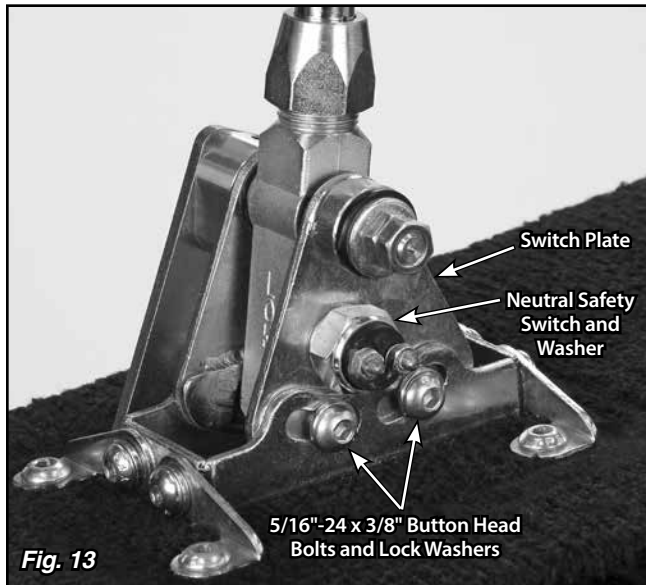
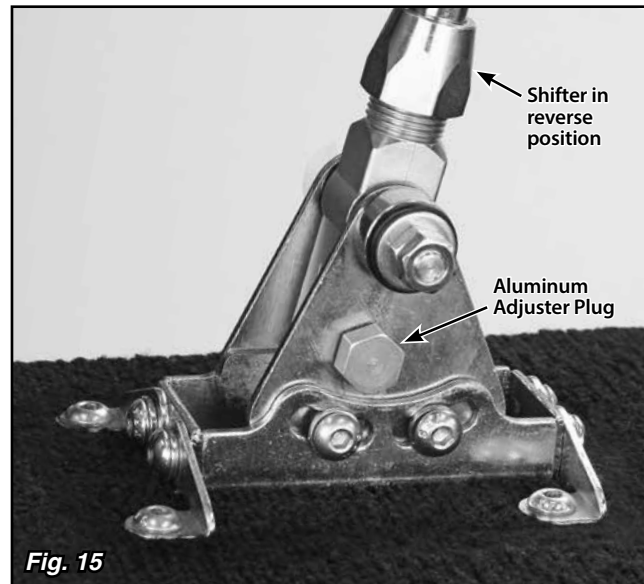

Fig. 13
Fig. 15
Step 16: Remove the neutral safety switch and washer (**Fig. 13**) from the passenger side of the shifter using a 7/8" wrench or socket.
Step 17: Loosen, but do not remove, the two 5/16"-24 x 3/8" button head bolts and lock washers that attach the passenger side of the floor mount mounting bracket to the switch plate (the bolts are in curved, slotted holes). **Fig. 13**
Step 18: Put the shifter into the Reverse position. Reposition the switch plate so that the hole in the switch plate lines up with the center groove in the shifter body. **Fig. 13** Screw the provided aluminum adjuster plug into the neutral safety switch opening. Wiggling the switch plate slightly forward and back while you are screwing the aluminum adjuster plug in will help get the shifter body centered on the adjuster plug. **Fig. 15**
- **If there are (2) connections for a neutral safety switch**, run a #12 (or heavier) stranded wire from these terminals in your fuse panel to the (2) terminals on the neutral safety switch. That completes the Neutral Safety Switch wiring.
- Step 2:** Loosen the jam nut below the shifter knob (turn the nut CLOCKWISE to loosen it). **DO NOT** loosen or remove the set screw that is in the knob. **Fig. 15**